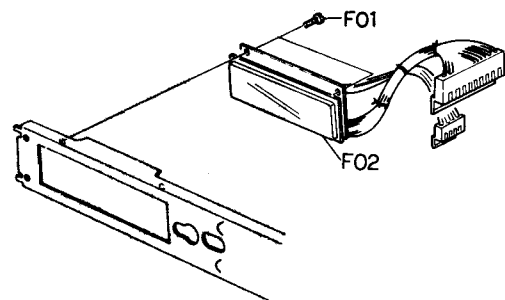

Fig. 3.4
Refer to Fig. 3.4. Remove Top Cover and Front Mechanism Ass'y referring to item 3.1. Remove F01, then F02 (Display Ass'y).